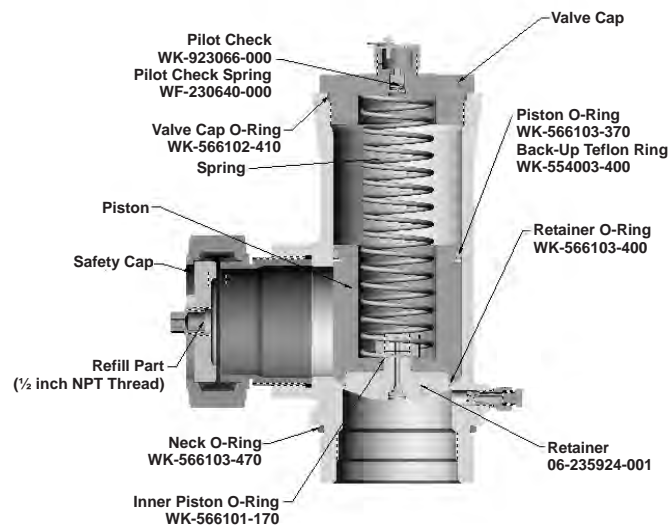

Figure 6-3. 3-inch Valve Assembly
**Note:** Refer to Figure 6-3 and Table 6-3 for items.
**Note:** Refer to Figure 6-3 and Table 6-3.
1. Install the O-ring (Item 2 in Figure 6-3) in the piston groove.
Make certain that the Teflon® back-up ring is below the O-ring as shown in Figure 6-3.